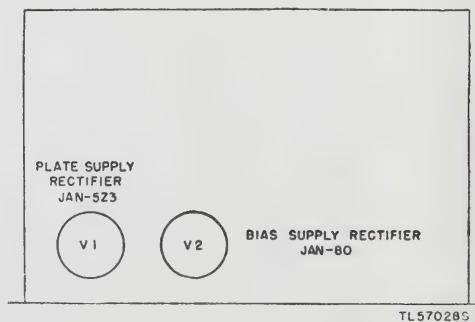

Figure 14. Power supply unit, tube location.
(2) Power supply unit. Take the dust cover off the power supply unit and remove the cardboard jackets from the two rectifier tubes. Figure 14 shows the location of these tubes.